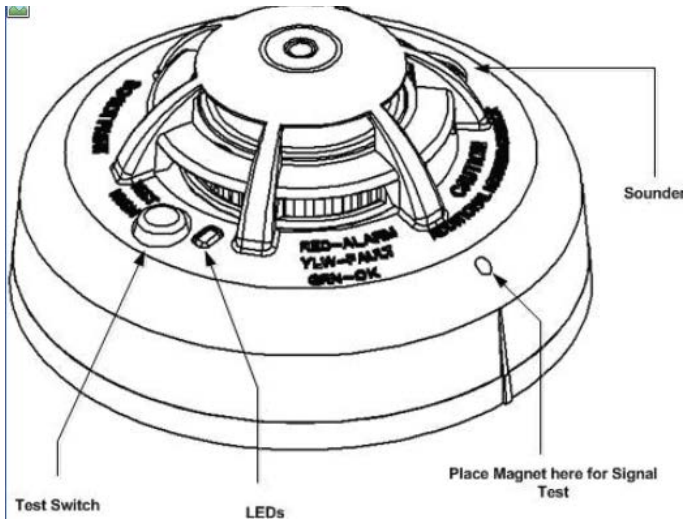

Figure 3 LEDS, Sounder, Test Switch and Signal Test Locations
1. The test button is located on the detector housing. (Figure 3)
The test must be performed while the smoke detector is held in its intended mounting location. Install batteries in the smoke detector. Initiate the test by placing a strong magnet on the smoke detector housing at the location shown in figure 3. The model 325/320 piezo sounder will beep once. A delay of up to 15 seconds will occur followed by either one or two beeps. One beep indicates an unacceptable location and two beeps indicate an acceptable location. If only one beep is heard then relocate the model 325/320 mounting position closer to the nearest repeater or control panel and perform the test again. Continue this procedure until 2 beeps are achieved. Do not mount the smoke detector unless 2 beeps are heard when performing 5 consecutive signal tests. This test **must** be performed before and after transmitter installation. Note: A CWSI model AR-5 repeater or CP-3500D Control Panel must be powered up, installed and enrolled before running this test.
This switch has multiple functions and is located on the detector housing as shown in figure 3. To activate the switch, push and hold for 5 seconds. Pressing this switch will not cause an alarm at the control panel.